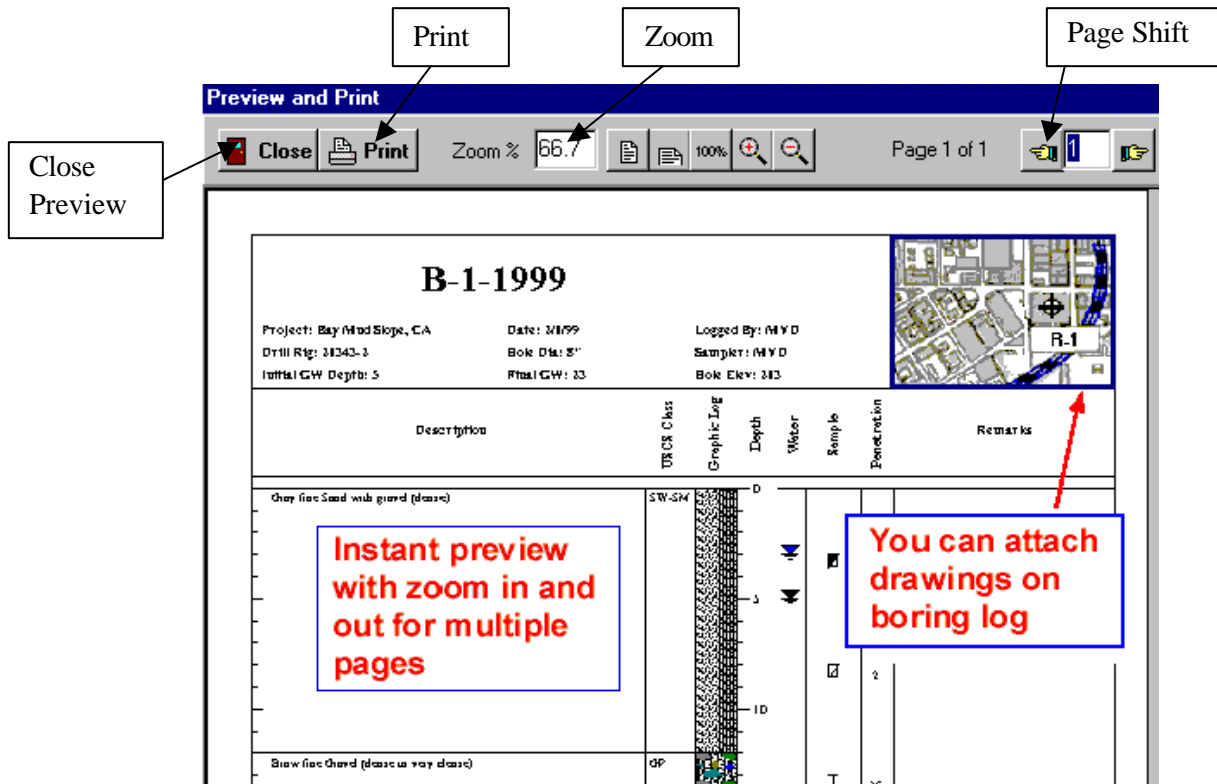

Figure 5-1 Preview and Print Screen
Pressing the View button on the toolbar will open a Preview and Print screen, similar to Figure 5-1. (If the log has multiple pages, you can jump to different pages using the page shift buttons.) You can print the current log only, or an All Logs report.
- View*** Opens the Preview and Print screen (Figure 5-1) for the selected logs.